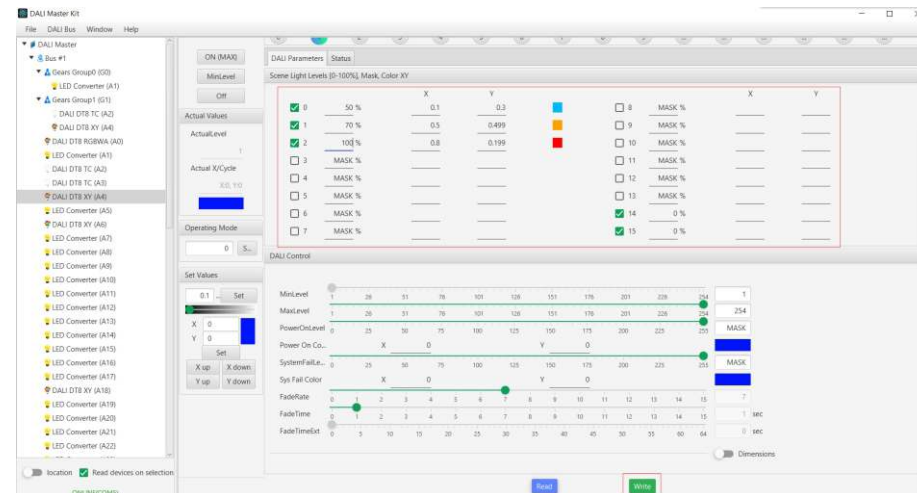

Figure 12 DALI Scene Configuration for DT8 XY Device
4.4. For DT8 XY device, brightness level, X coordinate value and Y coordinate value should be set for a DALI scene. After setting the parameters of the scenes, Click on “Write” button on bottom right of the window to write the scenes to the DALI device as shown in Figure 12.